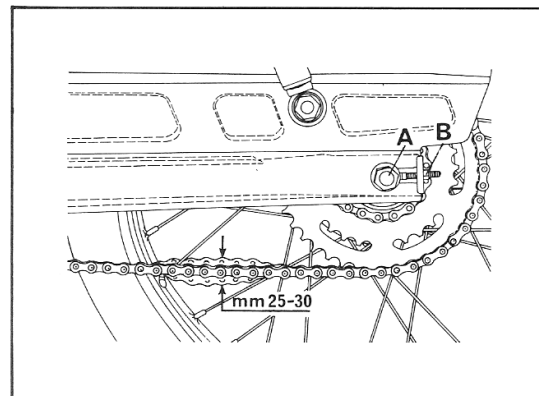

Fig. 13
■ adjust the chain tension. Loosen first the nuts «A» on the rear wheel spindle, then screw in or out the nuts on the chain tensioners «B» (shake play in the middle of the chain is mm 25-30 - bike not on stand). Then true the wheel (Fig. 13).